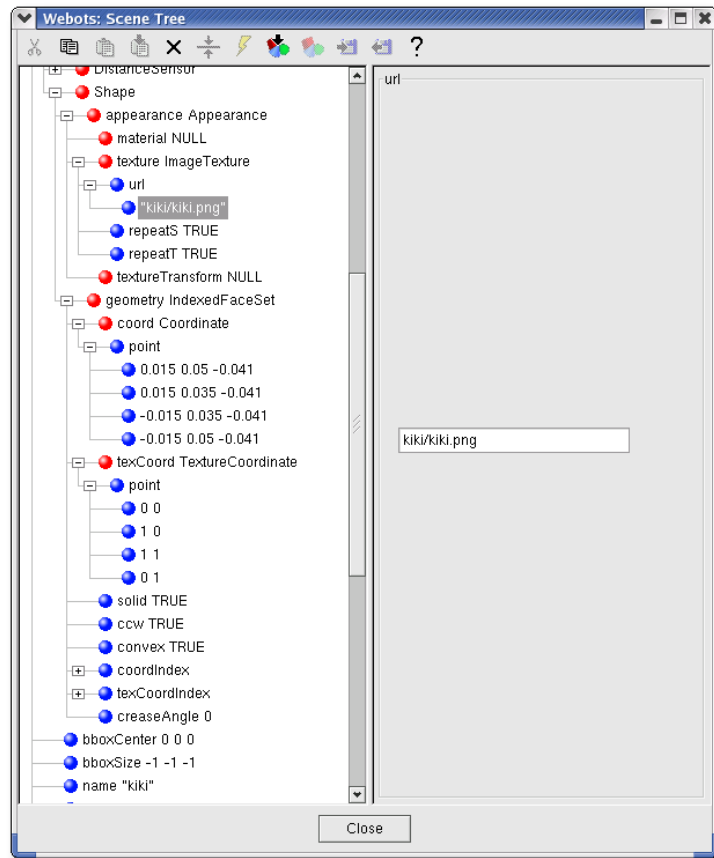

Figure 4.12: Defining the texture of the *kiki* robot
5. The texture values are shown in figure 4.12.